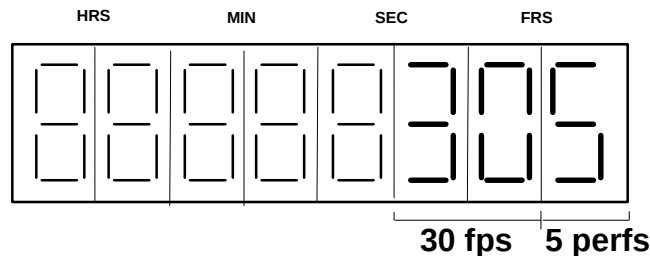

Figure 2.3: SELECT FRAME RATES LED Display
2. Display frame rate in the second- and third-last positions on the LED display, as shown in Figure 2.3.
3. Display number of perfs in the last position on the LED display, as shown in Figure 2.3.